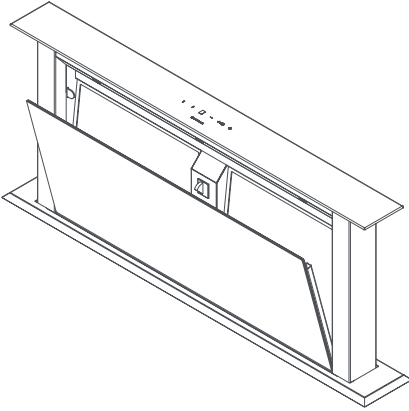

Fig. 6a: Edge suction plate removal
- Pull the top edge suction plate forward and disengage from the locking latch. Thus, the hood gets immediately de-energized (▲ Fig. 6a). Take out the edge suction plate upwards.